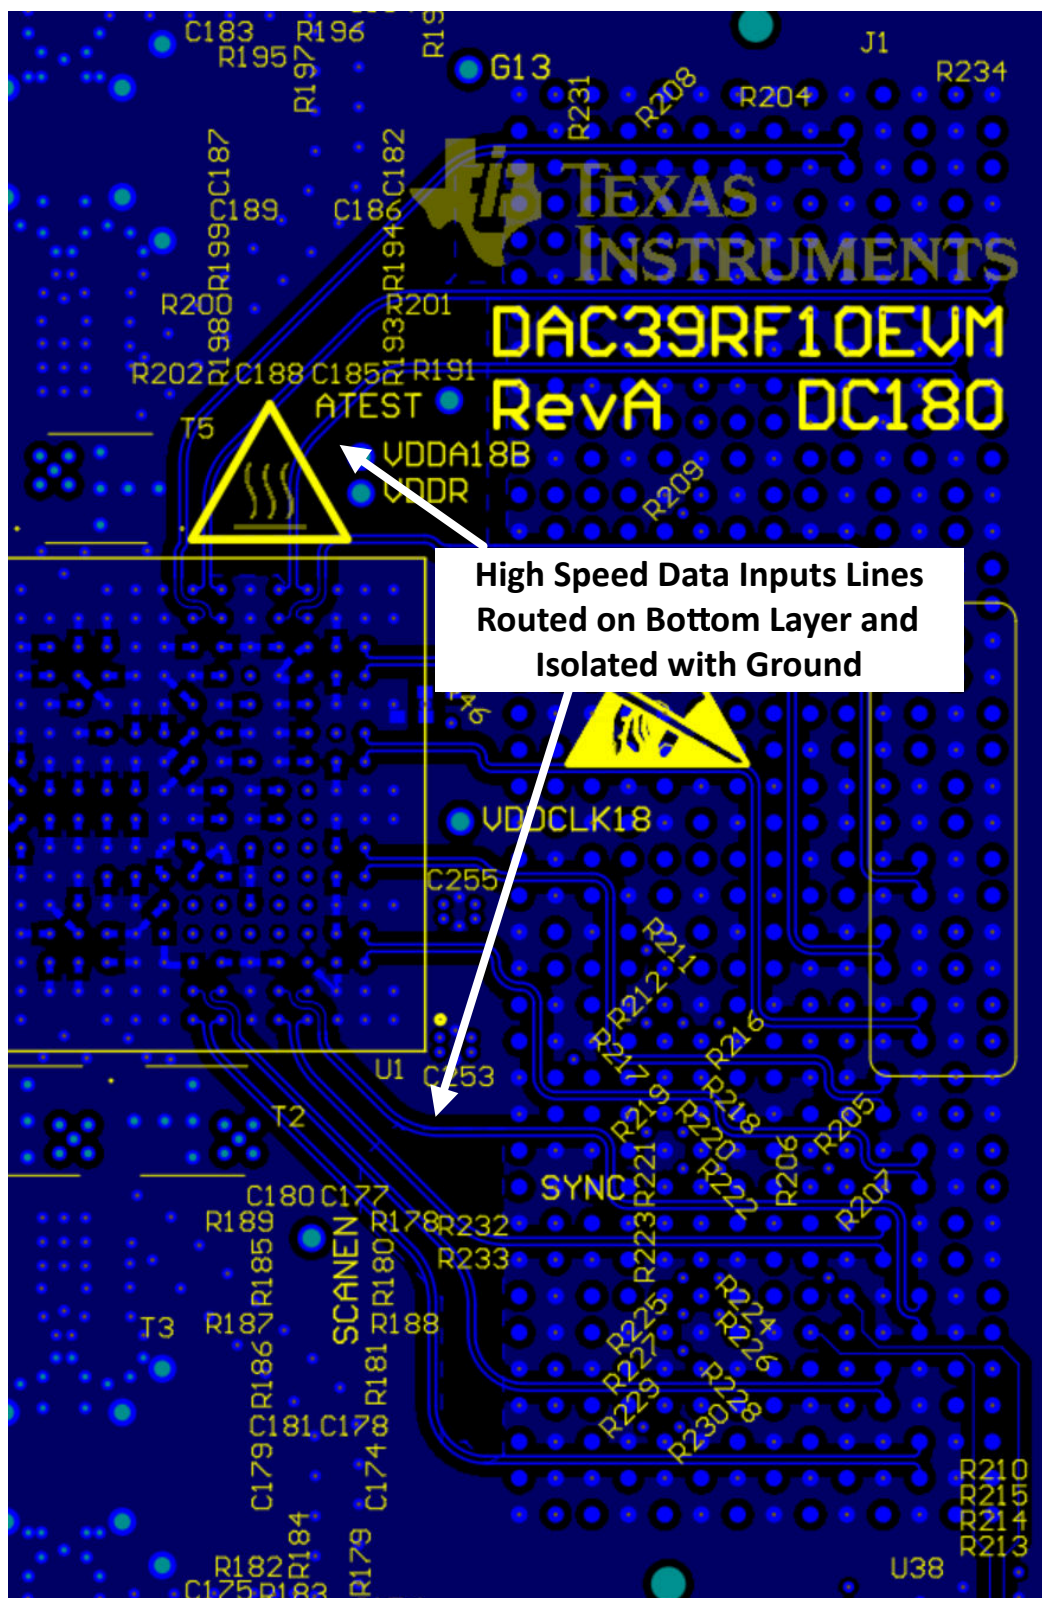

Figure 8-30. Serdes Bottom Layer Routing with Ground Isolation
9. Pay particular attention to potential coupling between JESD204x data input routing and the analog output routing. Switching noise from the JESD204x inputs can couple into the analog output traces and show up as wideband noise due to the high bandwidth of the DAC. Route the Serdes JESD204x data inputs on a separate layer, if possible, from the DAC output traces to avoid noise coupling, see Figure 8-29 and Figure 8-30 as examples.